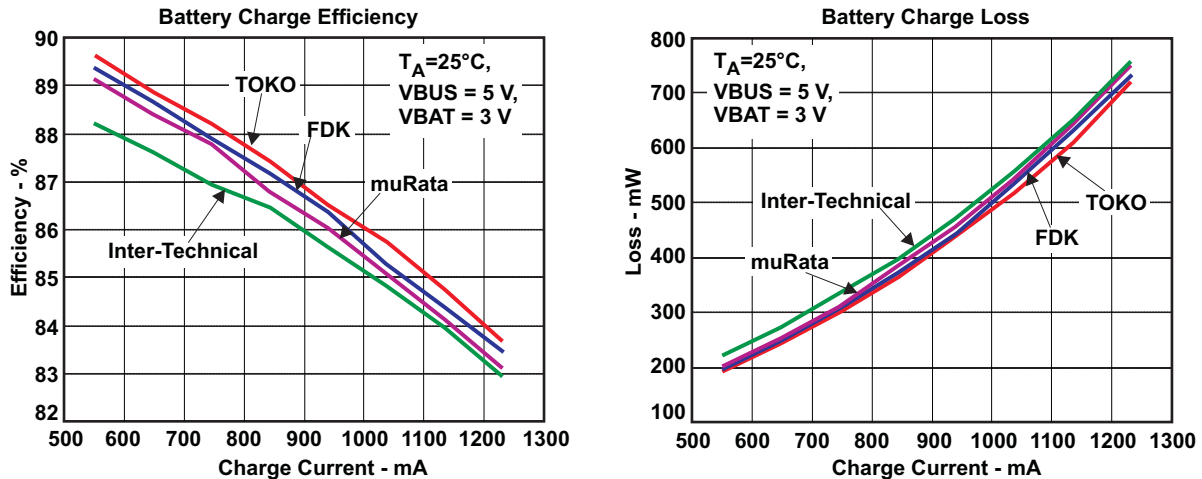
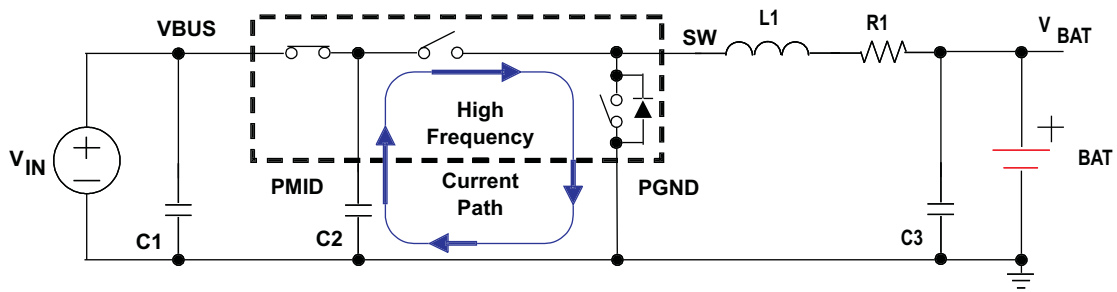
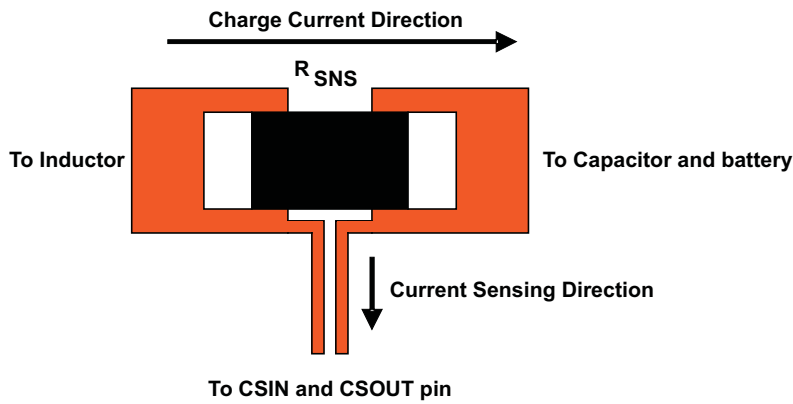

Figure 37. Measured Efficiency and Power Loss
Figure 38. High Frequency Current Path
Figure 39. Sensing Resistor PCB Layout
4. Measured efficiency and total power loss with different inductors are shown in Figure 37. SW node and inductor current waveform are shown in Figure 38.
- To obtain optimal performance, the power input capacitors, connected from input to PGND, should be placed as close as possible to the pin. The output inductor should be placed close to the IC and the output capacitor connected between the inductor and PGND of the IC. The intent is to minimize the current path loop area from the SW pin through the LC filter and back to the PGND pin. To prevent high frequency oscillation problems, proper layout to minimize high frequency current path loop is critical. (See Figure 38.) The sense resistor should be adjacent to the junction of the inductor and output capacitor. Route the sense leads connected across the RSNS back to the IC, close to each other (minimize loop area) or on top of each other on adjacent layers (do not route the sense leads through a high-current path). (See Figure 39.)